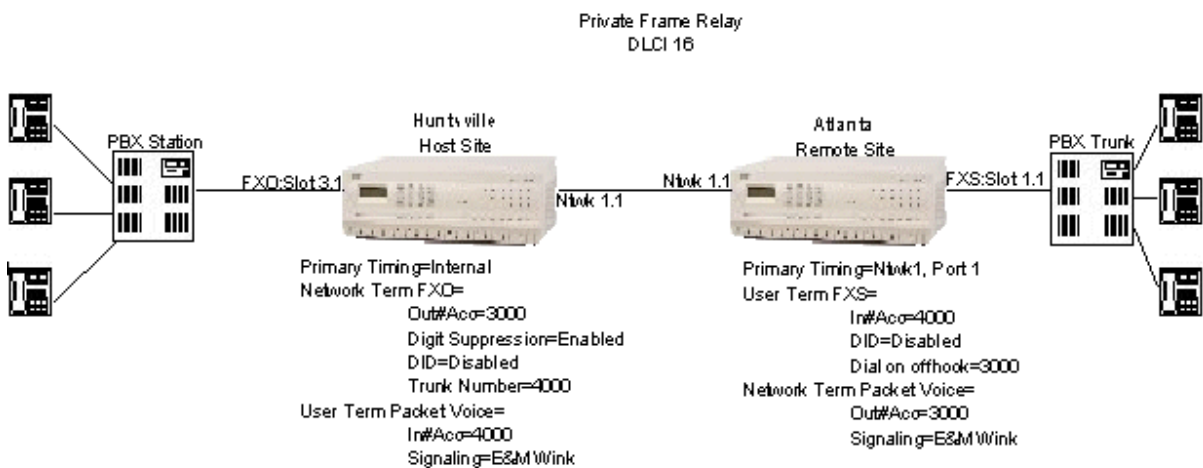

Figure 1
The ADTRAN ATLAS 550 can be used on a point-to-point T1 to emulate a Frame Relay circuit when a telco Frame Relay switch is not being used. An ATLAS 550 populated with a combination of FXS, FXO and VCOM modules can also support compressed voice in this private Frame Relay application. This technical support note will describe the hardware and configuration necessary to support voice compression and private frame relay over a point-to-point T1, using trunk numbers and the dial on offhook features to access a remote PBX for dialtone. **Figure 1** shows a diagram of this application.
- Press <enter> on **DS0 Selection** and change it to reflect the number of channels used for the frame relay connection. In the example network of Figure 1, all 24 channels will be used, so 1-24 is entered in the **DS0 Selection** menu field.